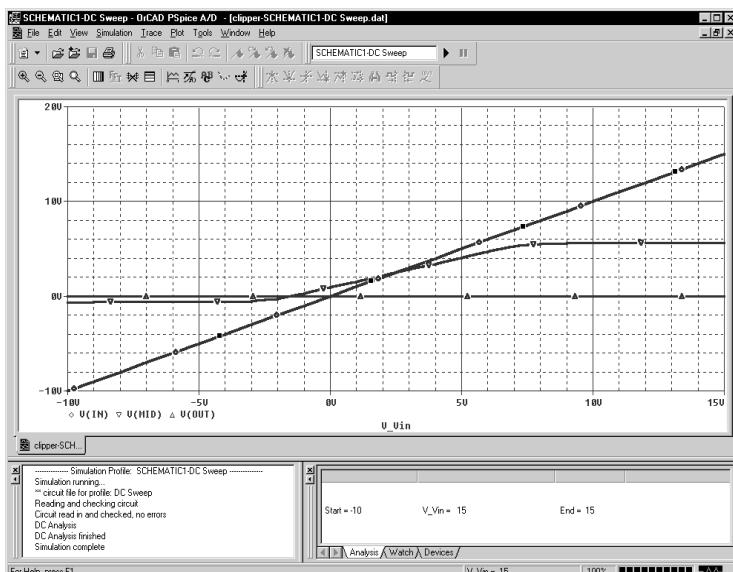

Figure 9 Voltage at In, Mid, and Out.
- 5 Switch to PSpice. The V(Out) waveform trace appears, as shown in Figure 9.